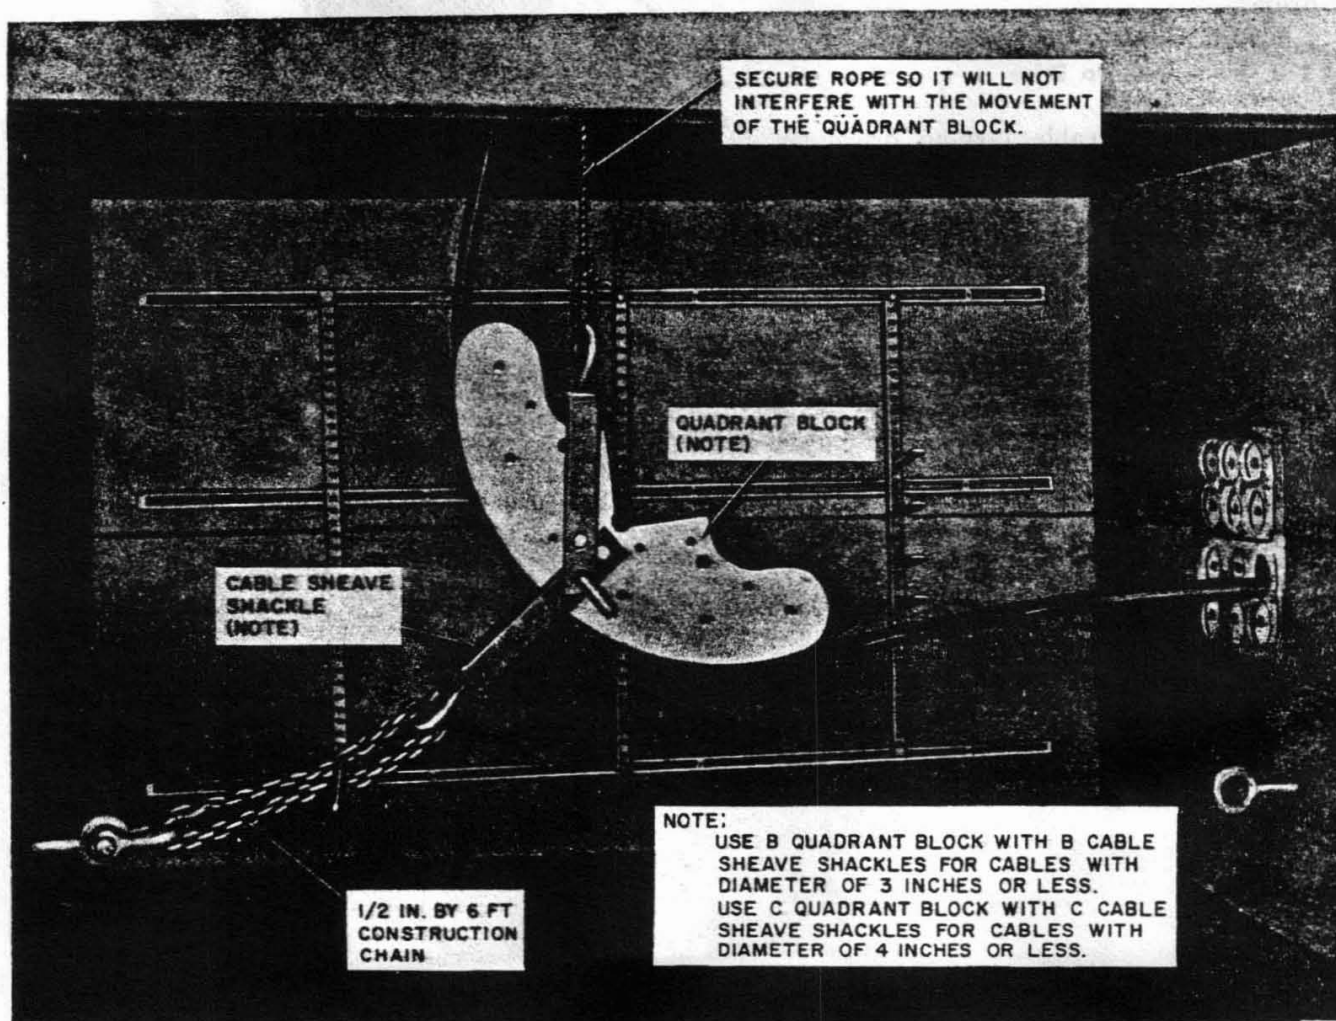
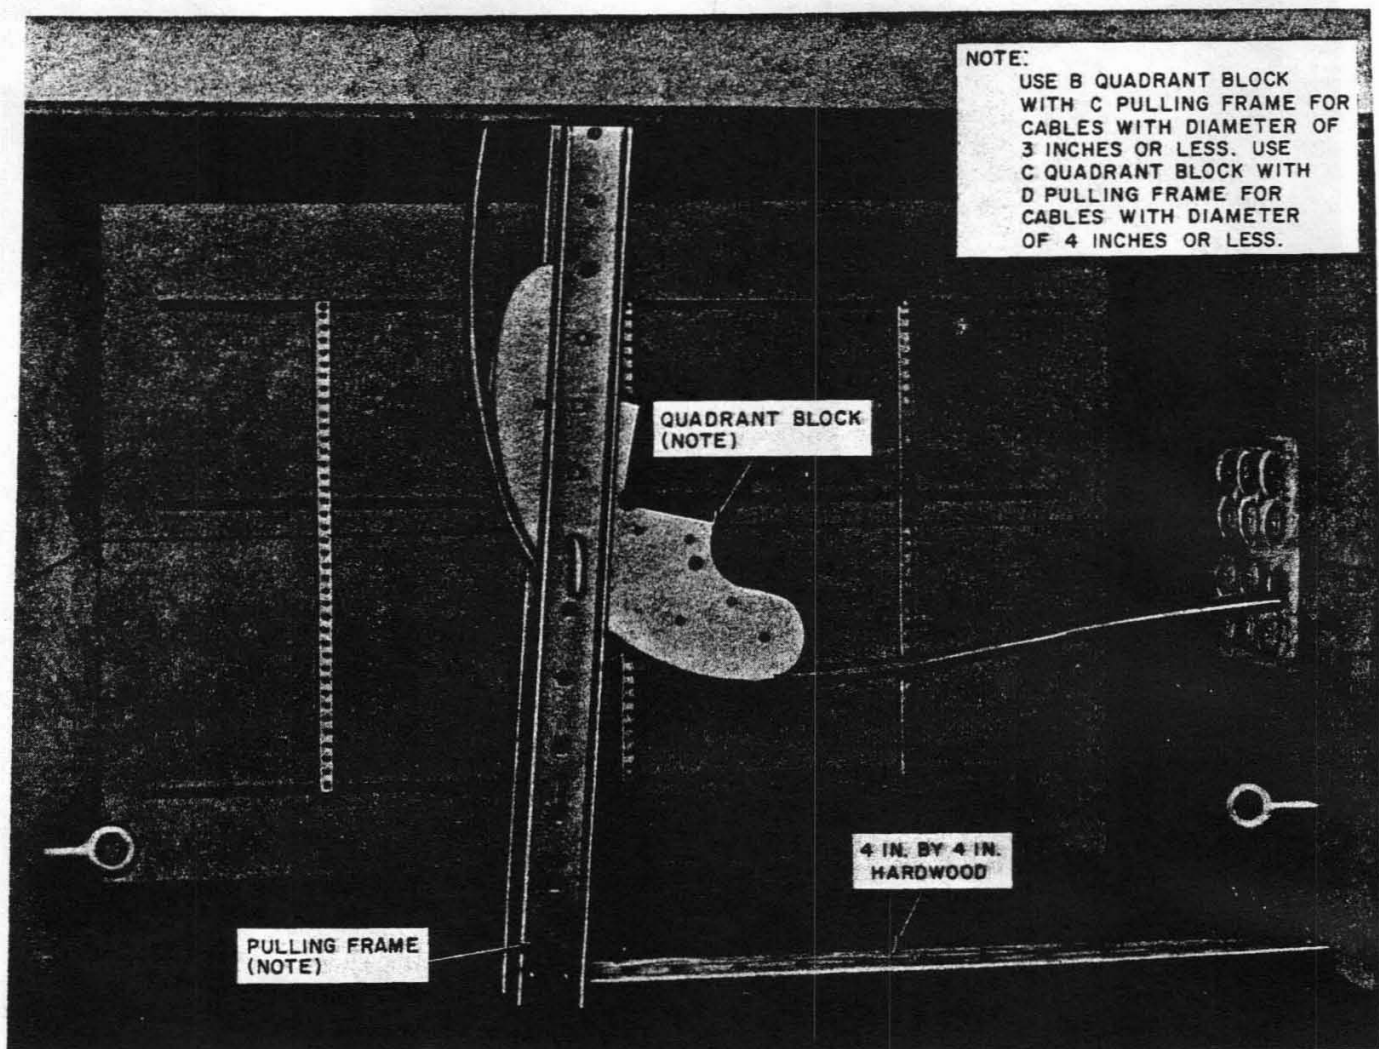

Fig. 3—Pulling Arrangement Using Quadrant Block and Cable Sheave Shackles
Fig. 5—Pulling Arrangement Using Pulling Frame and Quadrant Block
5.02 Set up the construction equipment in the manhole, utilizing a quadrant block (Fig. 3), cable sheave (Fig. 4), or pulling frame (Fig. 5).